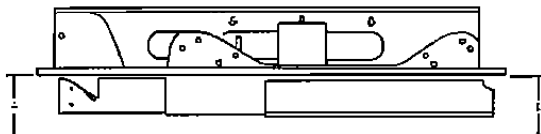

Figure 2
**Cutting Height Adjustment (Figure 2)**
**5', 6' & 7' Deck Cutting Height (Figure 2)**
The blades are 4-11/16" below the top of the deck. To check cutting height, place a straight edge along top of the deck as shown in Figure 2.